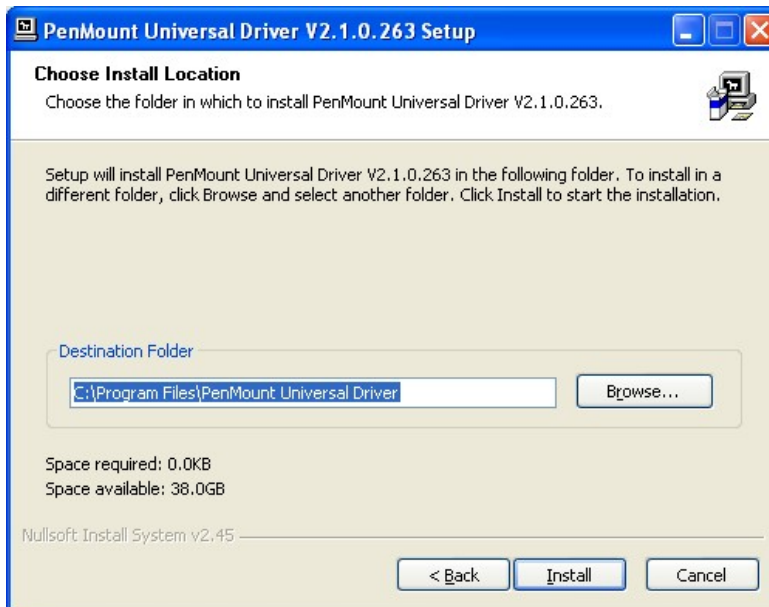

Figure 6-23: Touch Screen Driver Choose Install Location
Step 8: Browse for an install location or use the one suggested (Figure 6-23).